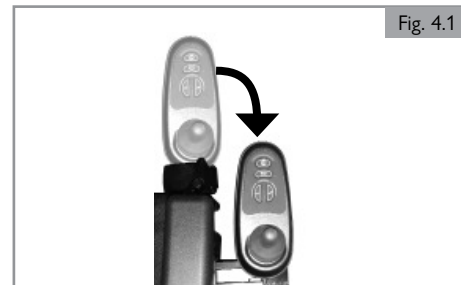

Fig. 4.1
1. Only operate the wheelchair at a low and maneuverable speed when the parallel swing-away is in use. (Fig. 4.1)